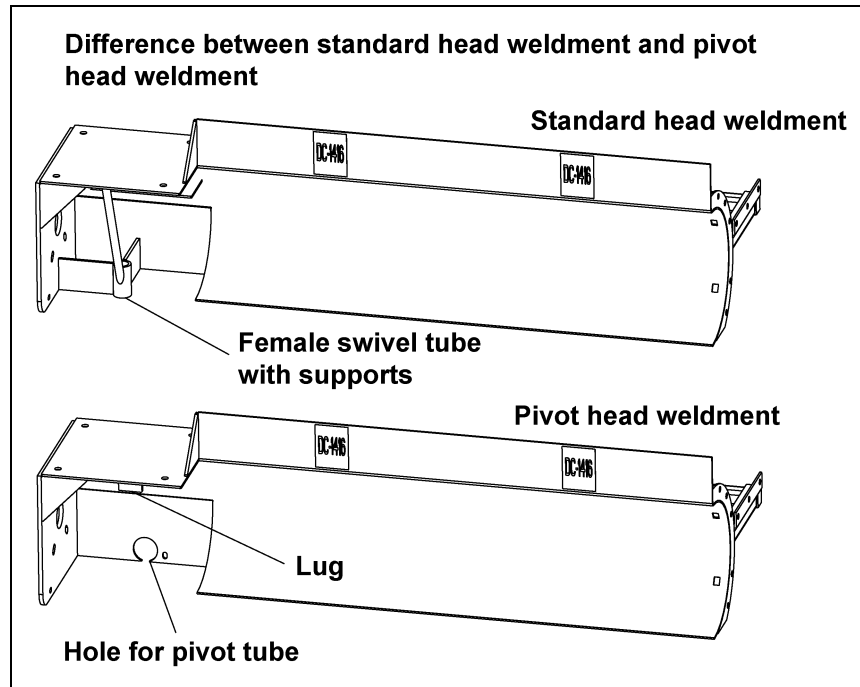

Figure 11A
The following Figure 11A is of a 16" pivot sweep head end weldment and a 16" standard sweep head end weldment. There are very few differences between the two. The standard head weldment has the female pivot tube welded to the drive end of the unit. Two (2) plate braces and one pipe brace support this tube. The pivot head weldment has a lug welded to the underside of the motor mount plate. This lug is for attachment of the sweep pivot rod assembly. There is a large hole in the rear plate for the center support tube assembly to pass through. Next to the large hole is a slot that the center support mounts to.